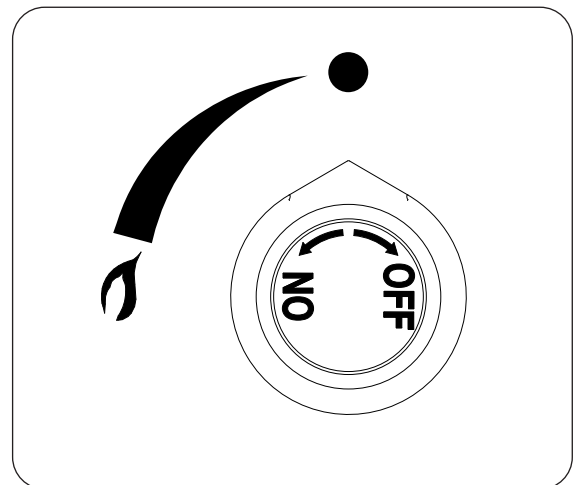

Fig. 25-2
4. **While holding the igniter button in, verify that the electrode spark is grounding to the flash tube**, then turn the gas control knob counter-clockwise to the **ON** position, depress, and hold for 15 seconds (see Fig. 25-2). Your burner should light within 5 seconds.
To extinguish your gas burner, turn the gas control knob clockwise to the **OFF** position (see Fig. 25-2). Be sure the control knob is turned fully off to avoid any gas leakage.